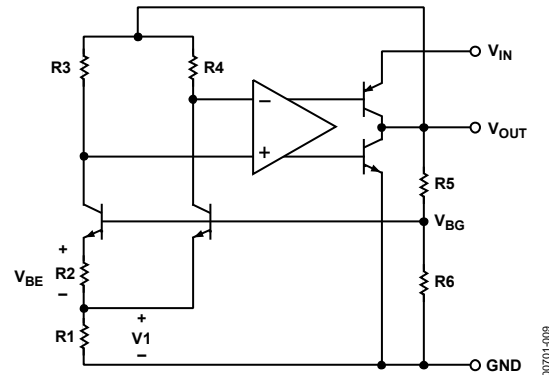

Figure 9. Simplified Schematic
The AD1582/AD1583/AD1584/AD1585 use the band gap concept to produce stable, low temperature coefficient voltage references suitable for high accuracy data acquisition components and systems. These parts of precision references use the underlying temperature characteristics of a silicon transistor's base emitter voltage in the forward-biased operating region. Under this condition, all such transistors have a  $-2 \text{ mV}/^\circ\text{C}$  temperature coefficient (TC) and a  $V_{BE}$  that, when extrapolated to absolute zero, 0 K (with collector current proportional to absolute temperature), approximates the silicon band gap voltage. By summing a voltage that has an equal and opposite temperature coefficient of  $2 \text{ mV}/^\circ\text{C}$  with the  $V_{BE}$  of a forward-biased transistor, an almost 0 TC reference can be developed. In the AD1582/AD1583/AD1584/AD1585 simplified circuit diagram shown in Figure 9, such a compensating voltage, V1, is derived by driving two transistors at different current densities and amplifying the resultant  $V_{BE}$  difference ( $\Delta V_{BE}$ , which has a positive TC). The sum of  $V_{BE}$  and V1 ( $V_{BG}$ ) is then buffered and amplified to produce stable reference voltage outputs of 2.5 V, 3 V, 4.096 V, and 5 V.